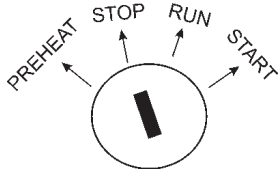

Figure 72. Engine Ignition Switch (Stop)
4. Turn the Ignition Key Switch (Figure 72) to the "OFF" position.
2. Turn the ignition switch key to the "STOP" position (Figure 72).